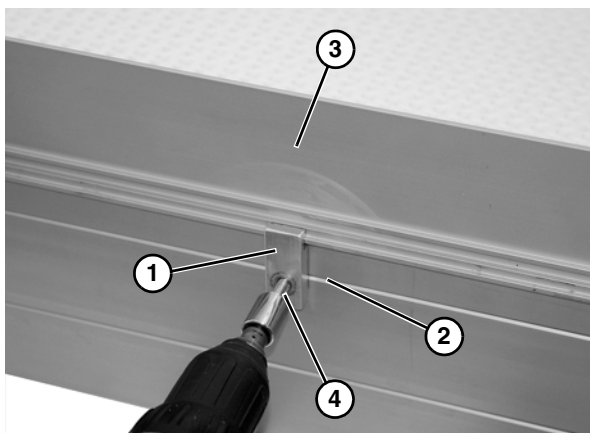

Figure 24
1. Lay out retaining clip (**Figure 24, item 1**) locations. The end clips should be no greater than 12" from end of the conveyor. Hole should line up with notch (**Figure 24, item 2**) in side rail.
2. Hold guide (**Figure 24, item 3**) and retaining clip (**Figure 24, item 1**) to conveyor side rail. Install self-drilling screws (**Figure 24, item 4**) following the "Proper Methods of Attachment to Side Rails" on page 9 procedure.